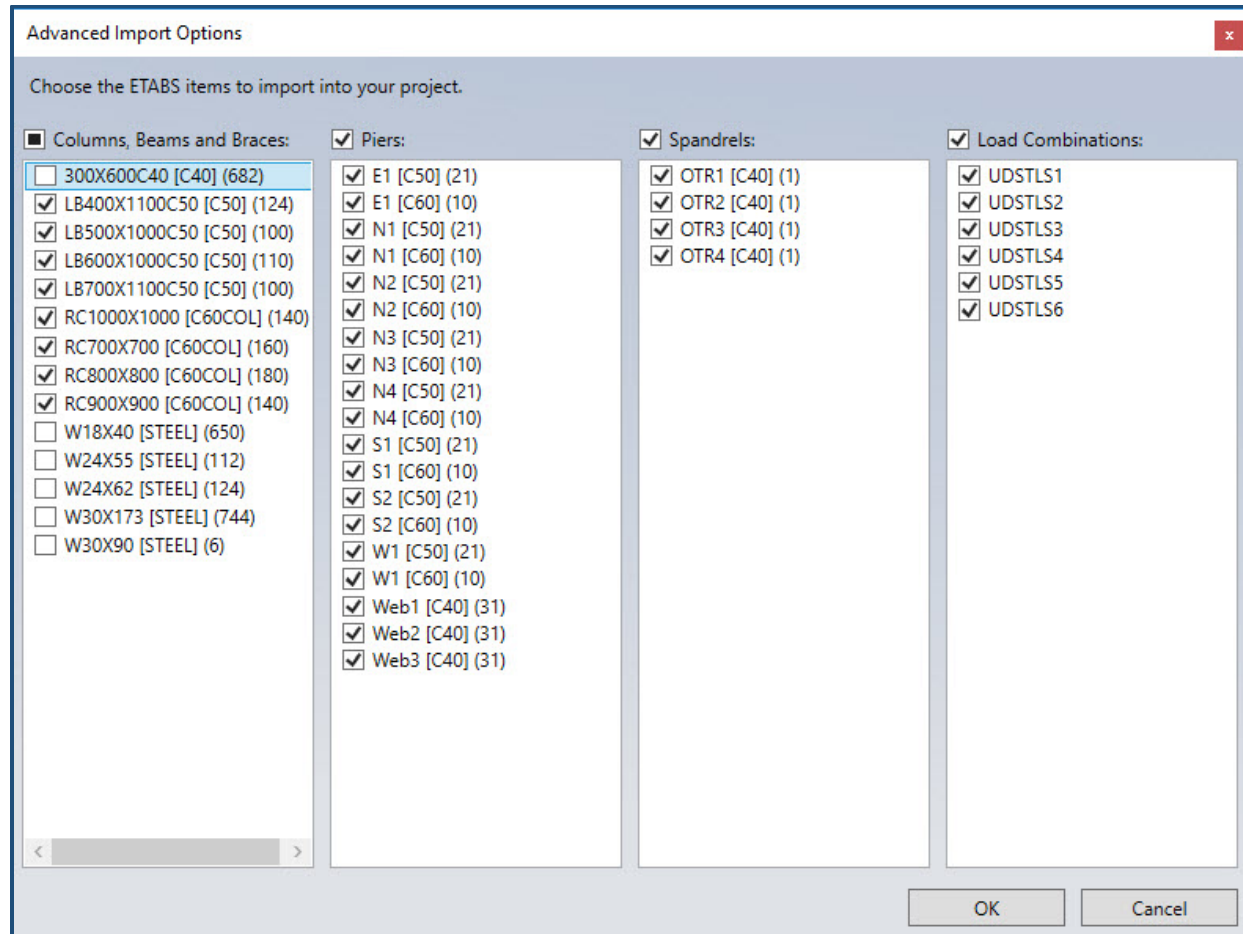

Figure 13. Model and Member Force Filter Options
3. Filter the elements by Section Name and the Load Combinations to be imported. (See Figure 13 for more details.)
Referring to Figure 13, the Filter Options allow the user to select specific ETABS® Section Names, Pier and Spandrel Labels, and Load Combinations to be imported for Concrete Design.